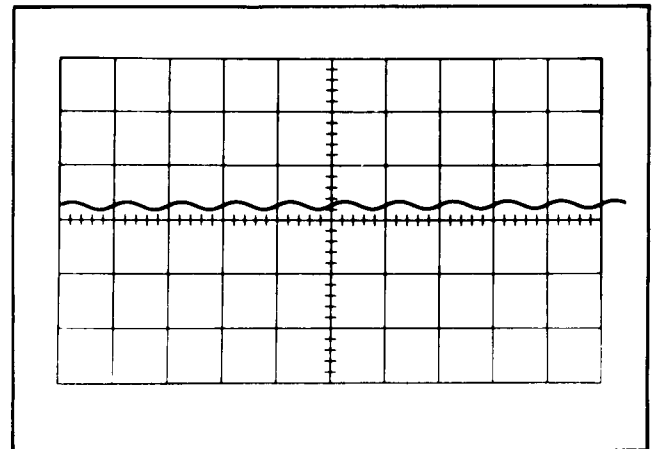

Fig. 6-38. Typical crt display when checking high-frequency reject operation at 50 kc.
e. Check—Stable display can be obtained (see Fig. 6-38).
k. Check—Stable display can be obtained (see Fig. 6-38).